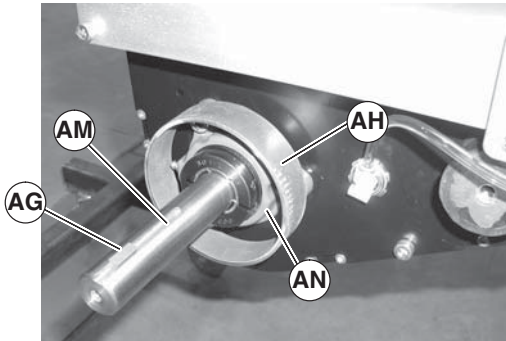
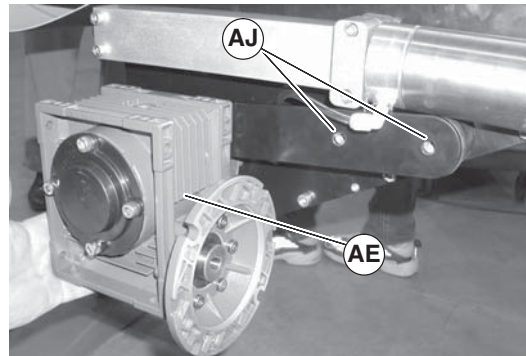

Figure 16
Figure 18
3. Install key (Figure 16, item AG) on drive shaft (AM).
5. Slide gearmotor (Figure 18, item AE) on to drive shaft (Figure 16, item AM). Tighten mounting screws (AJ) to 200 in-lbs (22.5 N-m).